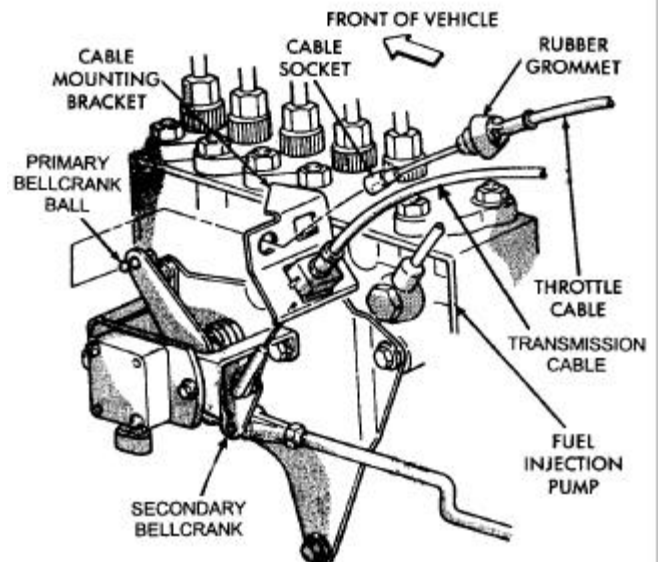

Figure 3
10. Disconnect the throttle cable from the primary bellcrank ball stud. To do this place a 3/8 inch open end wrench between the primary bellcrank arm and throttle cable socket and then pry the cable socket off the ball stud (Figure 3).
11. Apply a small amount of silicone spray lubricant to both sides of the throttle control cable rubber grommet (Figure 3).
12. Work the rubber grommet on the throttle control cable rearward through the mounting bracket with two small screwdrivers (Figure 3).
42. **For trucks equipped with an automatic transmission**, install the throttle valve cable into the cable mounting bracket (Figure 3).
46. Install the new throttle control cable through the cable mounting bracket until the rubber grommet locks into position (Figure 3).